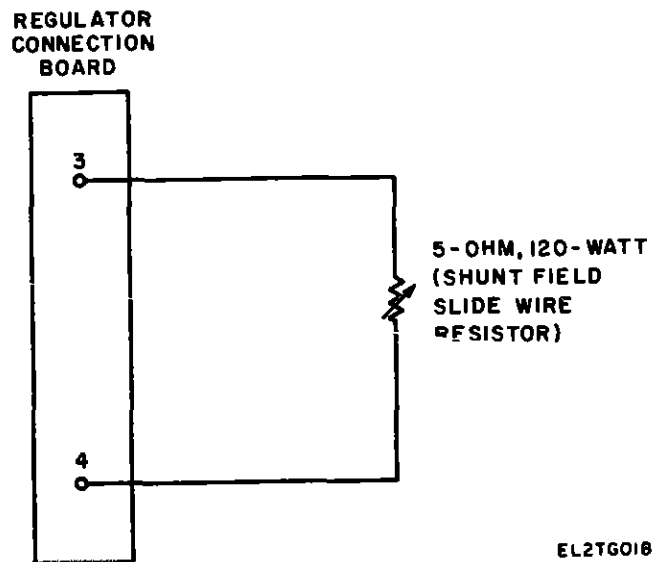

Figure 4-2. Shunt field wire resistor connections for voltage and frequency regulator assembly 4B48-6-A.
(1) Connect the shunt field slide wire resistor as shown in fig. 4-2
(2) Connect the frequency regulator lead disconnected from the regulator connection board to ground through a 30-ohm 300-watt resistor (This resistor will place a shunt field load on the regulator)
(3) Reapply the 28-volt dc input and adjust the shunt field slide wire resistor for a 400-Hz output